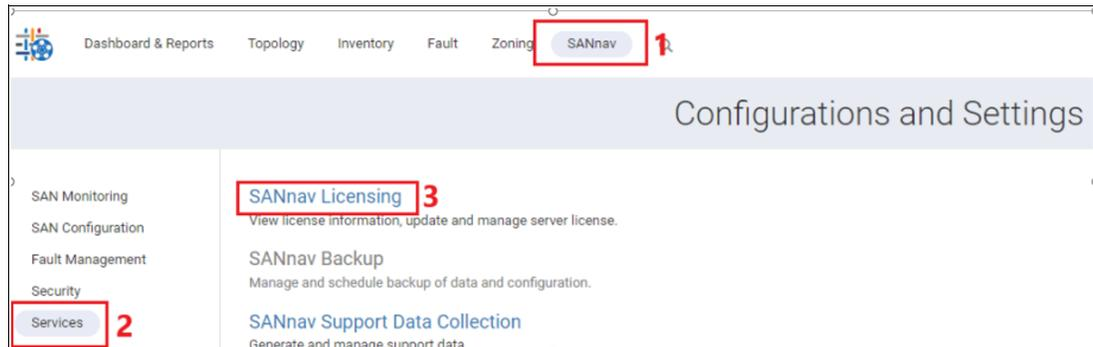

Figure 4-22 SANnav licensing
1. Click **SANnav** in the navigation bar, and then select **Services SANnav Licensing**, as shown in Figure 4-22.